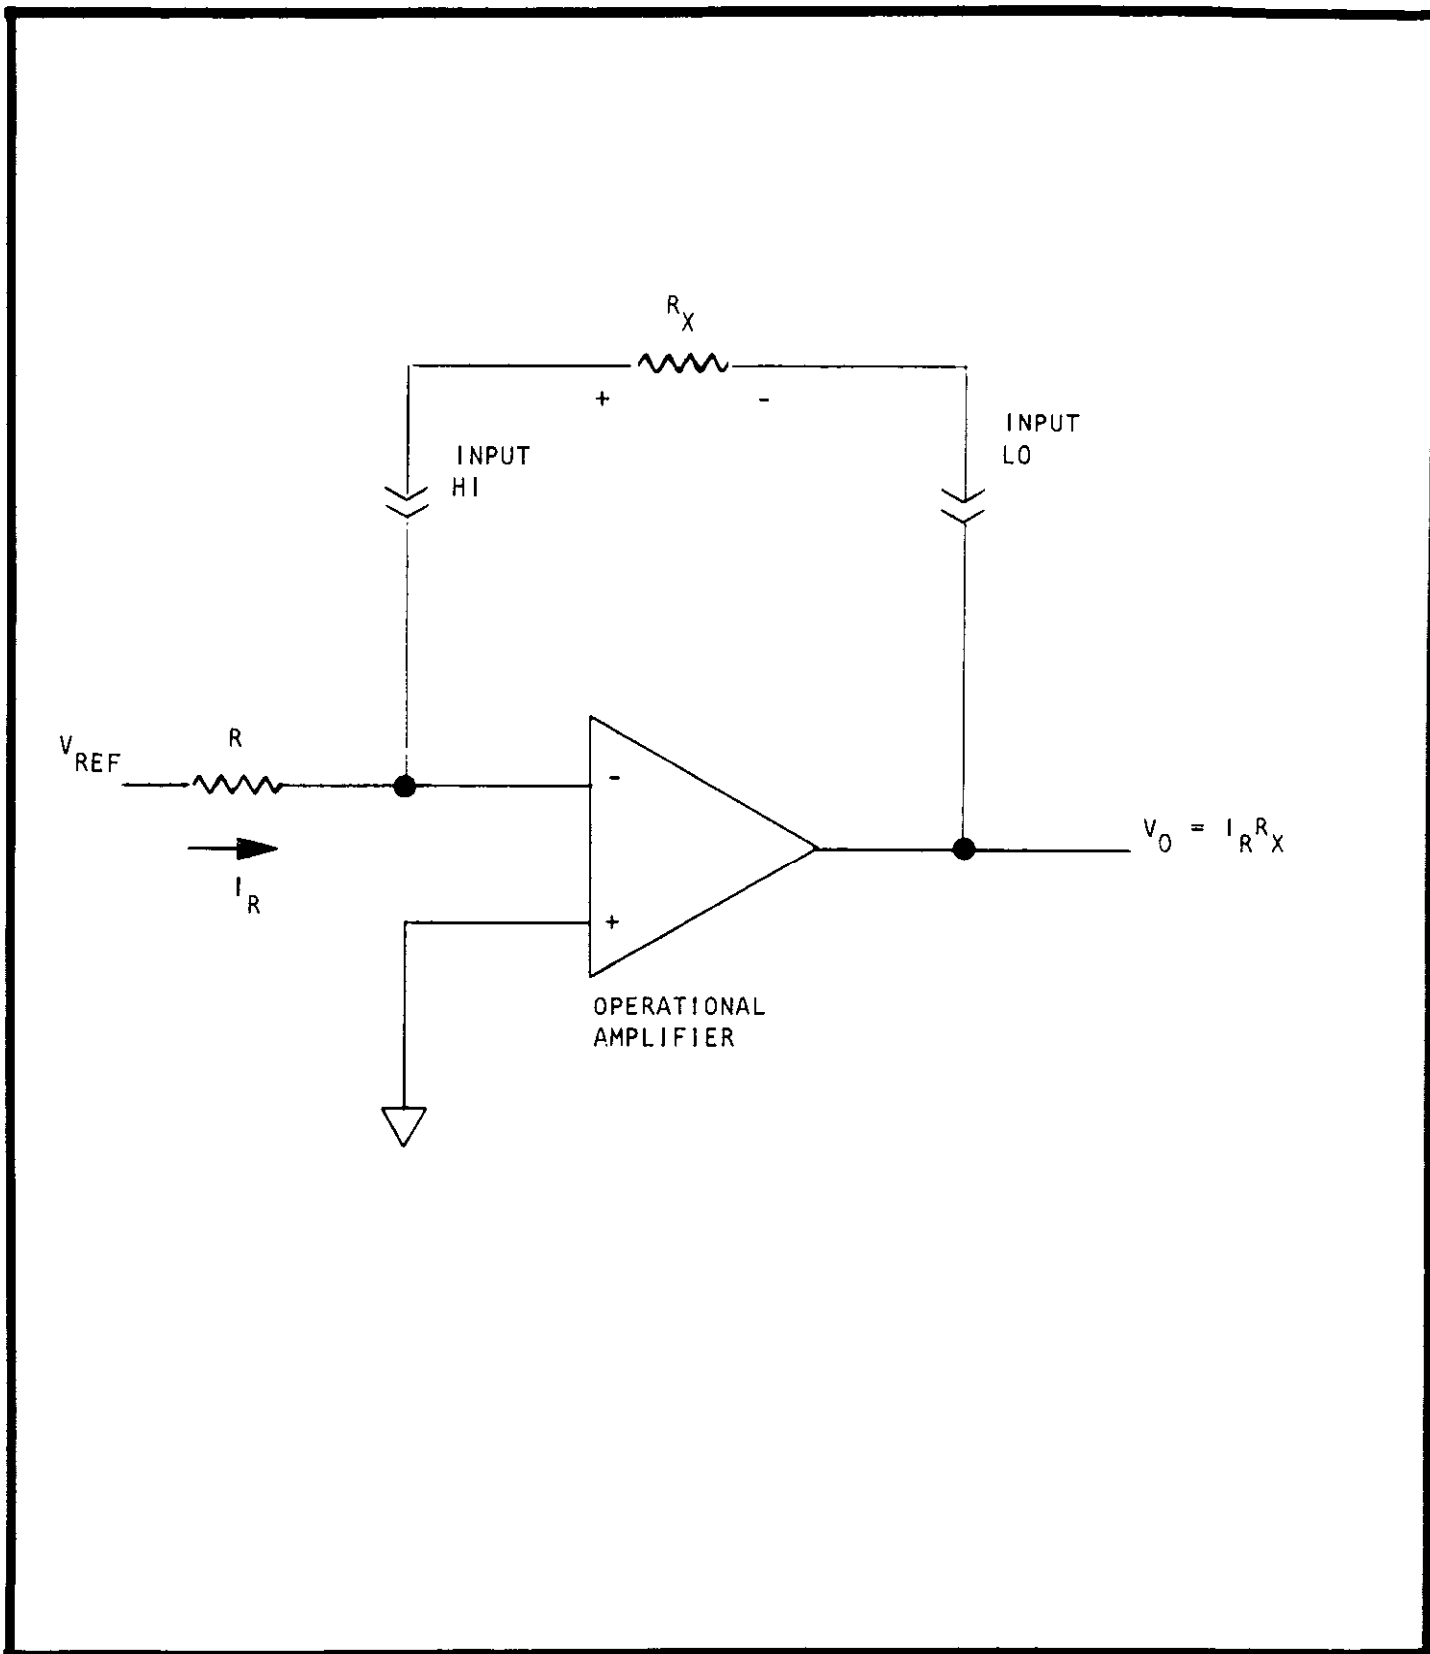

FIGURE 25. Simplified Diagram of Model 1744 Ohms Option.
a. Simplified Description. The basic philosophy for the Model 1744 ohms circuit is shown in Figure 25. A constant current equal to $V_{REF} \div R$ is forced through the unknown resistor R_x . The output voltage of the operational amplifier is proportional to the unknown resistor value and the value of the constant current. Properly scaled reference voltage (V_{REF}) and resistors (R) determine the value of the constant current which determines full range resistance sensitivity.